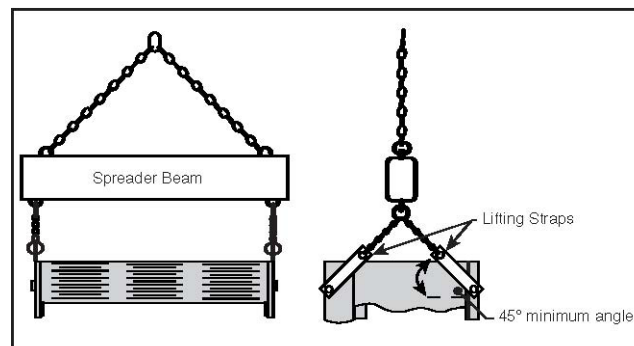

Figure 1
Unload switchgear shipping sections from the delivery truck using a crane (*See Figure 1*) or forklift in accordance with the switchgear manufacturer handling instructions. Attach a lifting cable at each of the four (4) lifting points to lift and move sections, and use load-rated slings or cables with safety hooks or shackles. Use spreader bars to maintain proper angles for lifting and to prevent slings or cables from rubbing against equipment. Rig the lifting slings or cables so that the minimum angle between lifting slings or cables and the top of the equipment is 45°, and the maximum interior angle is 90°. Interior angles greater than 90° apply greater inward pressure to lifting lugs which can damage or dislodge lifting lugs from switchgear. Remove and discard lifting lugs after the equipment has been placed in position. Screw bolts back into place to cover the mounting holes.